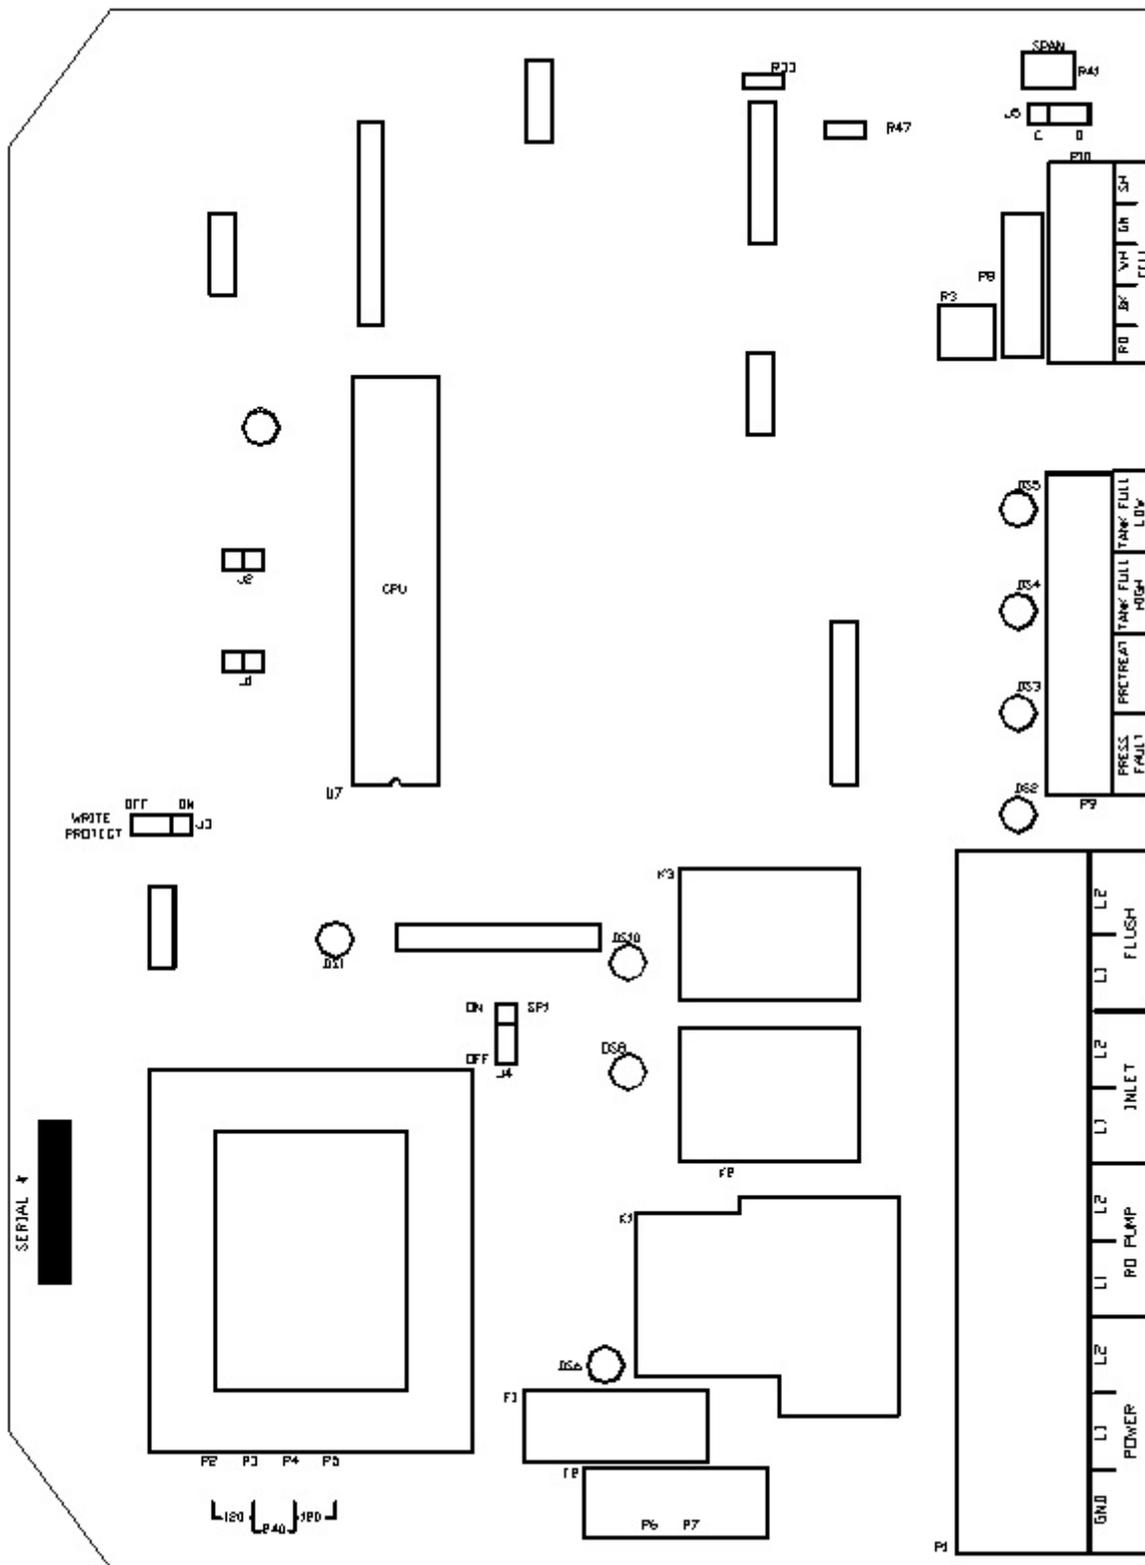
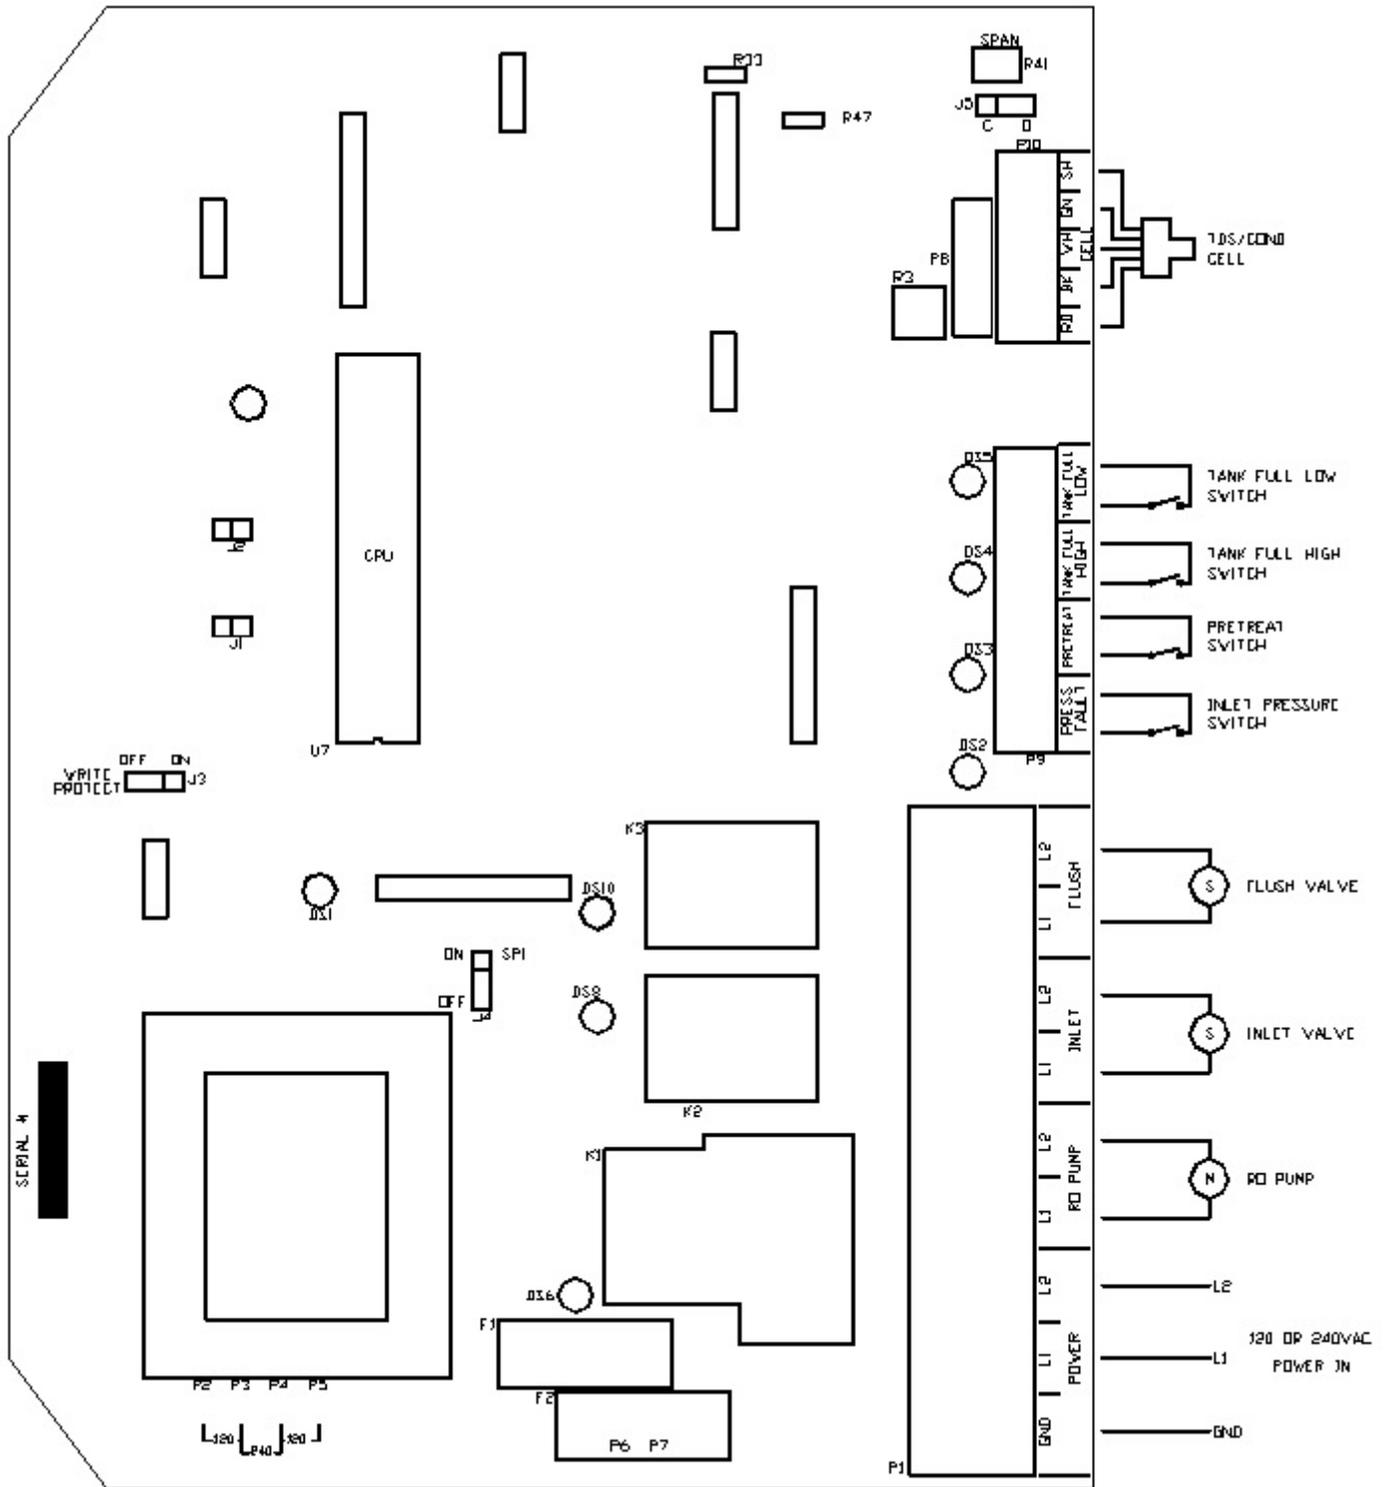

Figure 2
Figure 3
Refer to figure 2 for the location of all terminal strips and connectors. Figure 2 also shows all jumper and adjustment locations. Figure 3 shows a sample wiring diagram.
1. Refer to figure 1 for the location of the keys used to display or change the Setpoints and figure 2 for the location of the write protect jumper, J3. For the unit to be able to accept a change in a Setpoint, the shorting jumper must be in the off position(center and left pins). **NOTE:** Setpoints cannot be changed if the write protect jumper is in the ON position.